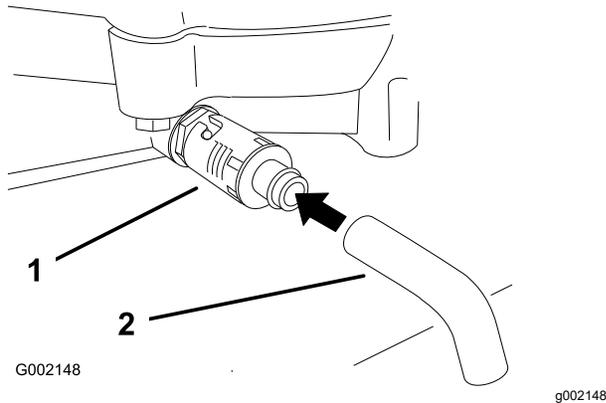

Figure 25
4. Place a pan below the drain. Rotate the oil drain valve to allow the oil to drain (Figure 25).